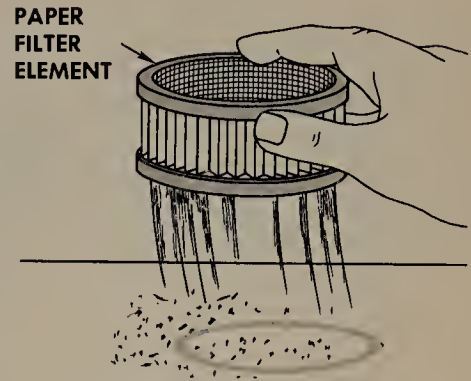

FIGURE 11.13 Tapping the paper filter to knock dirt loose.
11.10 Dry-filter Air Cleaner. Remove the filter element cover if it is a separate part. Some air cleaners of this type are made in one piece without a separate cover. Cover the carburetor intake with a cloth or plastic film. The paper filter element can be cleaned by tapping it lightly on a flat surface, as shown in Fig. 11.13. Do not wash it unless the manufacturer's instructions so specify. Getting the paper wet will clog the paper pores and ruin the element. If the dust does not drop off easily or the element is damaged in any way, throw it away and use a new element. Remember that even one pin hole in the element can let enough dust in to ruin the engine in a short time.